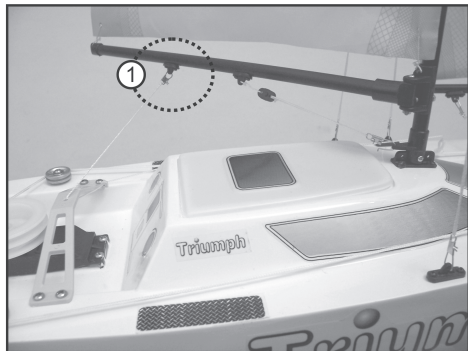

Figure 7
To be able to control the angle of attack of the mainsail, the „boom“ must be connected to the control line of the sail winch as shown in figure 7, item 1.